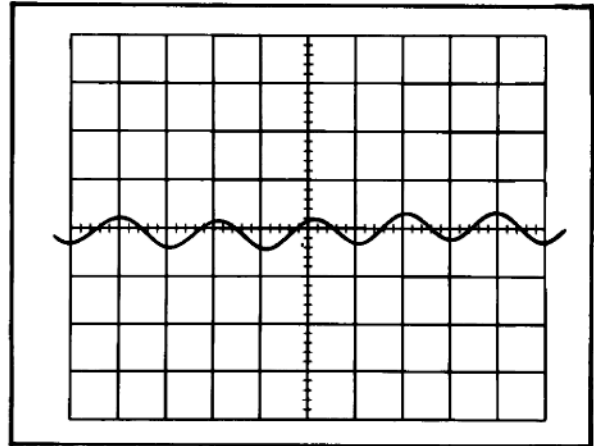

Fig. 6-21. Typical CRT display showing correct 10-nanosecond timing.
- b. CHECK—CRT display for one marker each two divisions (see Fig. 6-21) with the fifth marker within ± 0.24 division of the ninth vertical graticule line (timing within $\pm 3\%$). (If timing error is greater than 5%, replace V544 and repeat steps 17 to 20.)